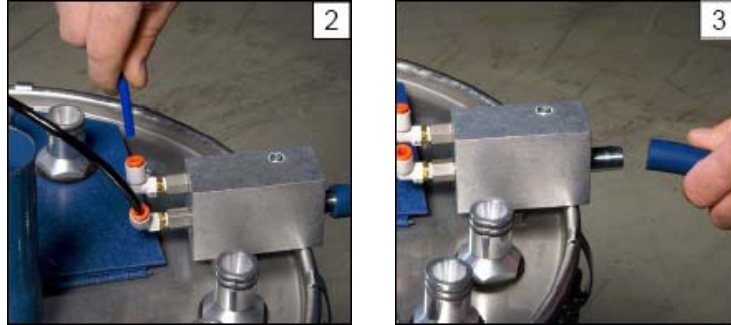

Fig. 5-12
1. Detach the air hoses from the pump (Fig. 5-12).
2. Remove the powder hose (Fig. 5-12).